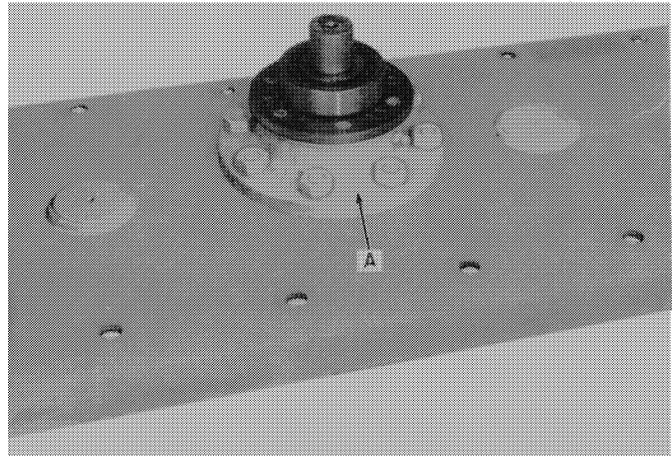

FIGURE 14
3. Clean shaft with emery cloth and remove upper bearing as shown in Figure 14. The lower bearing and spacer can be removed from bottom side. If housing A is replaced, use permatex between housing and trough. Pack bearings with grease in assembly.